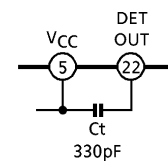

Fig.3 Countermeasures for AM tweets
It is necessary to connect the capacitor C_t (about $330pF$) between V_{CC} terminal (pin⑤) and DET OUT (pin㉒), in case that AM tweets occurs by pattern layout. (Fig.3) This C_t can also functions as phase compensation of MPX stage.